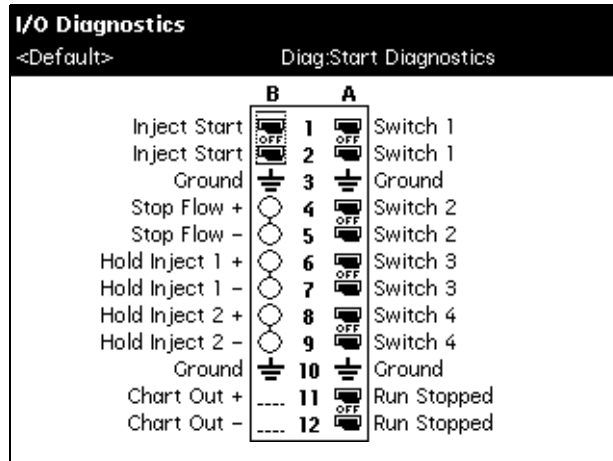

Figure 8-15 I/O Diagnostics Screen
1. Select **Inputs and outputs** in the Other Diagnostics screen, then press the **OK** screen key. The I/O diagnostics screen appears (Figure 8-15).